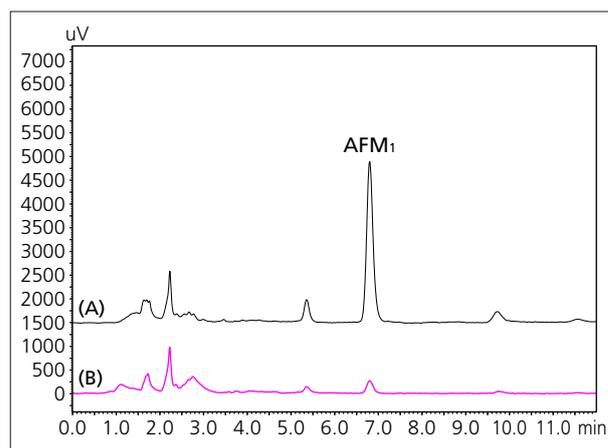

Fig. 4 HPLC Chromatograms for Commercially Available Milk (A) With added standard AFM₁, (B) with no added standard AFM₁
An AflaStar™ R* immunoaffinity column from Romer Labs was used to remove contaminant constituents. The chromatograms obtained after analysis of these samples are shown in Fig. 4. (A) is the chromatogram for milk with added AFM₁, and (B) is the chromatogram for milk with no added AFM₁.